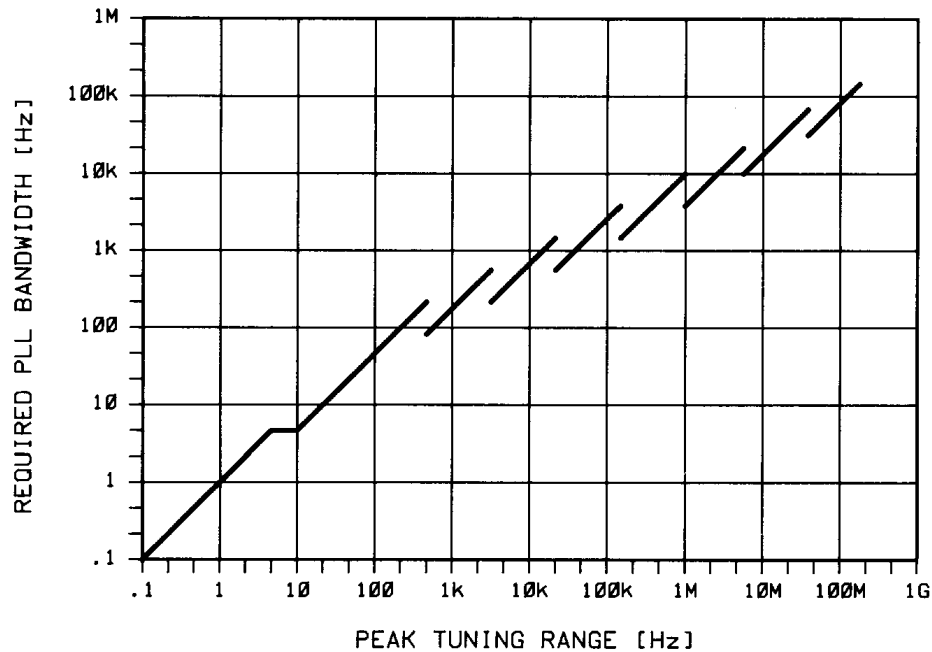

Figure 6-11 Graph of Phase Lock Loop Bandwidth Provided by the Peak Tuning Range
- 2 Estimate the Phase Lock Loop (PLL) bandwidth for the measurement using the PTR of your VCO and the graph in Figure 6-11.